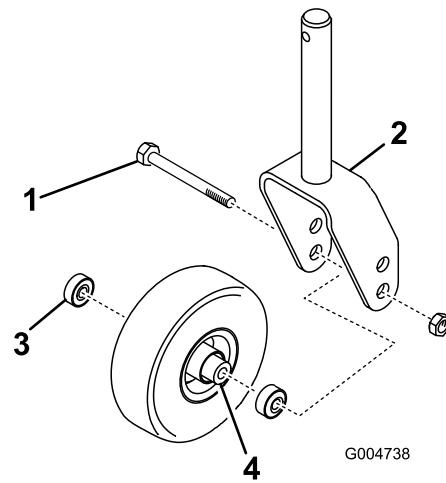

Figure 20
1. Remove the locknut from the bolt holding the castor wheel assembly between the castor fork (Figure 20). Grasp the castor wheel and slide the bolt out of the fork or pivot arm.
2. Remove the bearing from the wheel hub and allow the bearing spacer to fall out (Figure 20). Remove the bearing from the opposite side of the wheel hub.